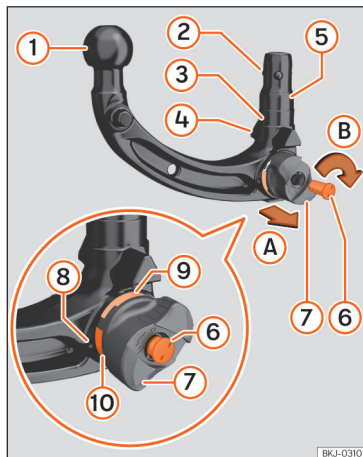

Fig. 154 Overview: removable tow hitch.
- ③ Locking mechanism (ball)
- ④ Centring guides
- ⑤ Stem
- ⑥ Key
- ⑦ Key slot cover
- ⑧ Thumbwheel
- ⑨ Green mark on the tow hitch
- ⑩ Red mark on the thumbwheel
3. Open the lock cover »» Fig. 154 ⑦ and insert the key ⑥ into the lock.
4. Turn the key ⑥ counterclockwise until the arrow on the key points towards the lock open symbol on the thumbwheel ⑧.
5. Hold the tow hitch with one hand. With the other, pull out the thumbwheel ⑧ in direction A.
6. Turn the extracted thumbwheel ⑧ in direction B as far as the stop.
8. Release the thumbwheel ⑧.